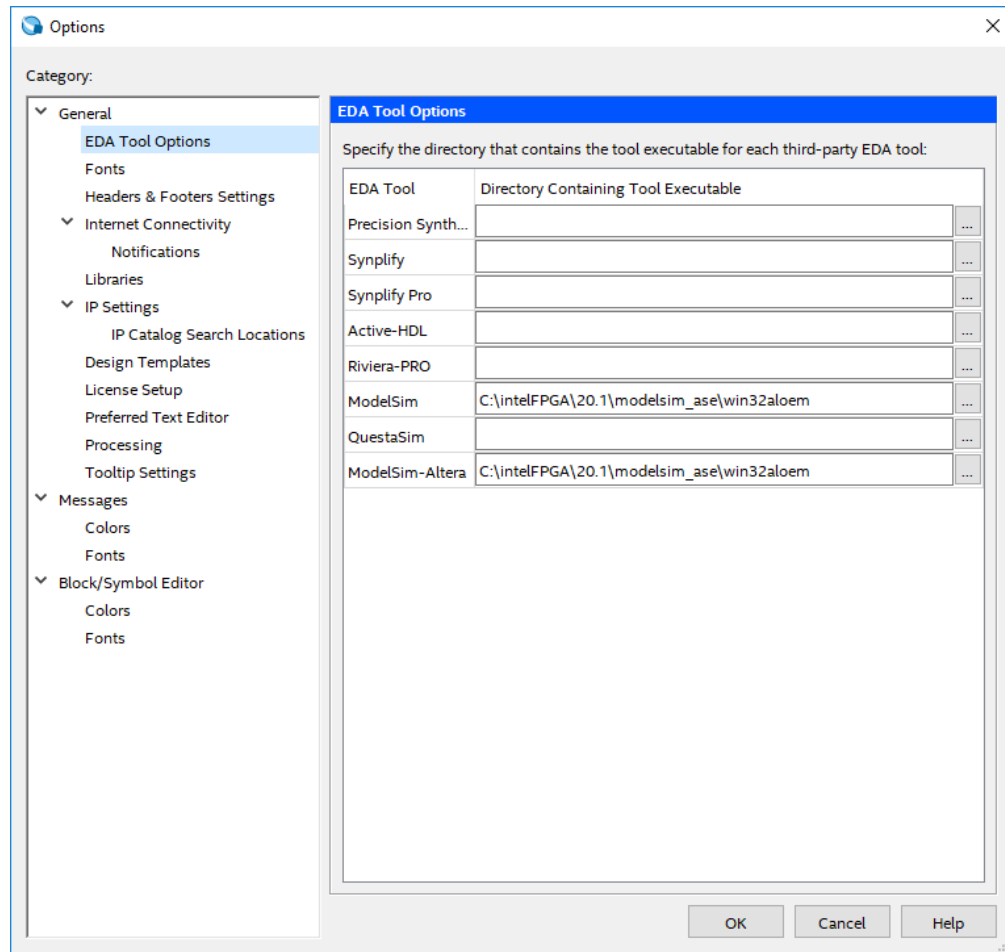

Figure 5.4: Setting ModelSim path
3. There should be file paths mentioned in-front of **ModelSim** and **ModelSim-Altera** (see Figure 5.4).